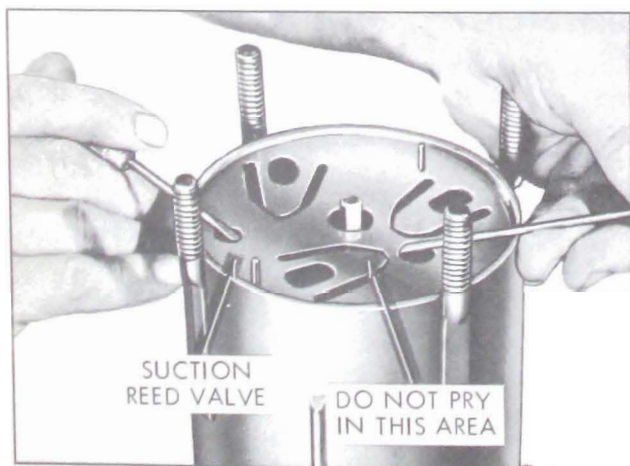

Figure 11-95—Removing Rear Suction Reed
17. If rear suction reed valve didn't come out with valve plate, carefully remove reed as shown with two small screwdrivers. See Figure 11-95. Replace reed valve if damaged.